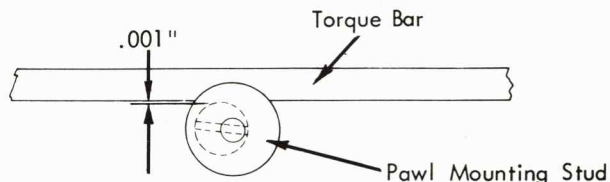

FIGURE 102. Pawl Mounting Stud Adjustment
3. Pawl Mounting Stud - Rotate the pawl mounting stud so that it clears the escapement torque bar by .001" at the closest point along the writing line (Fig. 102). Keep the high part of the eccentric toward the left so that the force of the torque bar will tend to tighten the stud instead of loosen it.